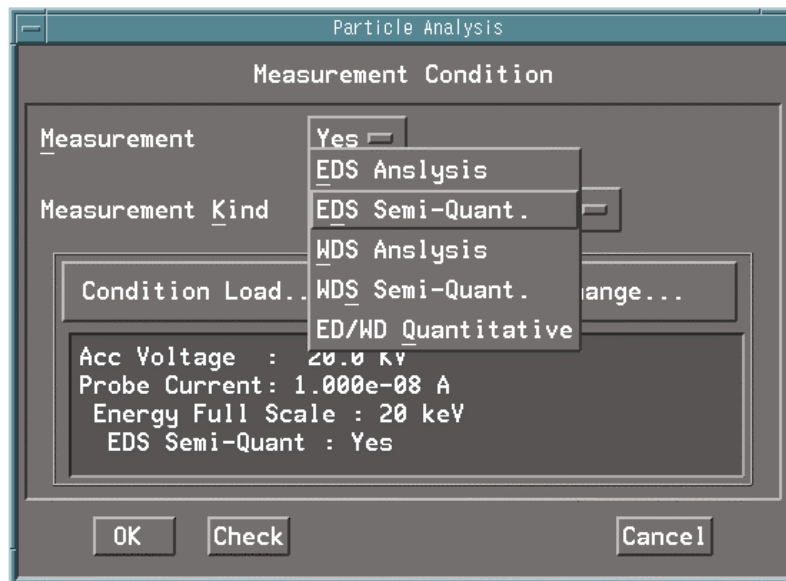
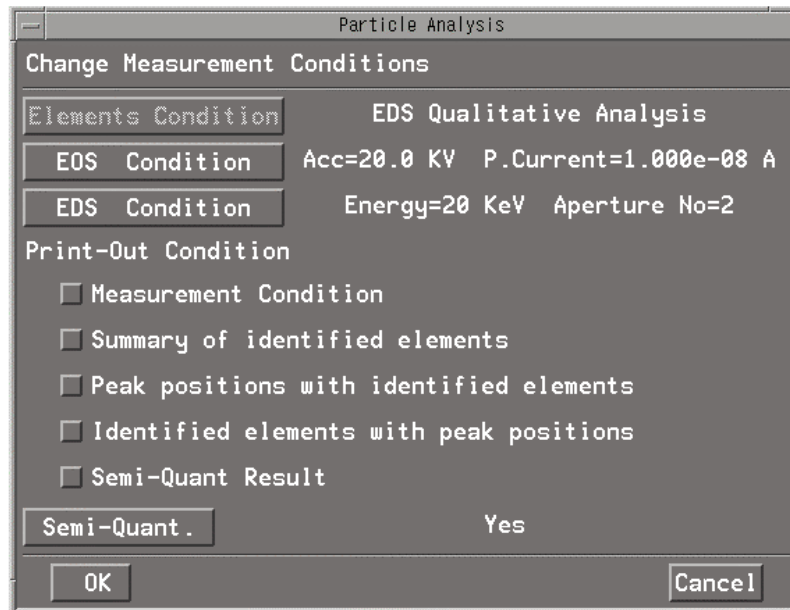

Fig. 8.13 “Measurement Condition” window
Fig. 8.15 “Change Measurement Conditions” window
Click on the “Analysis Condition” button in the “Particle Analysis Condition Input” window, and the “Measurement Condition” window will be displayed as shown in Fig. 8.13.
- Condition Change...:** Clicking on the “Condition Change...” button in the “Measurement Condition” window shown in Fig. 8.13 will display the “Change Measurement Conditions” window as shown in Fig. 8.15. You can change the following measurement conditions, depending upon the measurement kind.